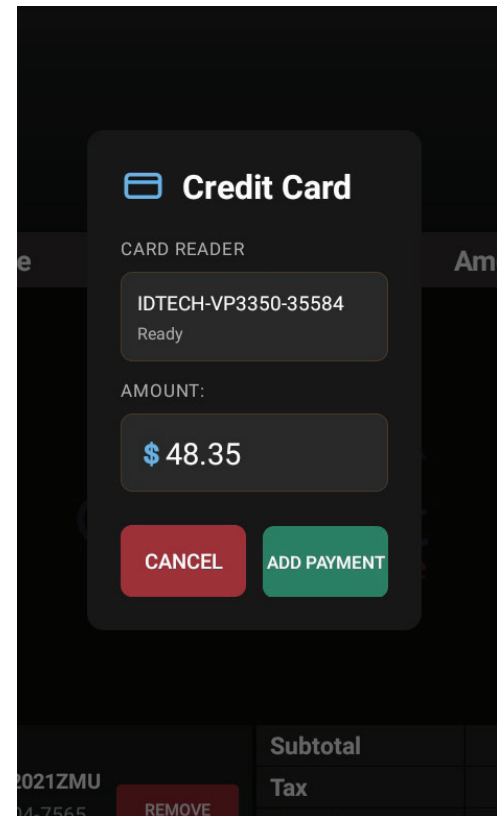

Figure 56
3. Tap ADD PAYMENT (Figure 56).